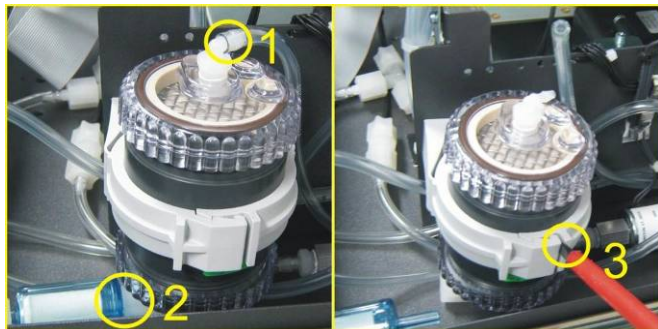

Figure 58 – Zero Scrubber Removal
3. Remove the tubing from the barb fitting on top of the scrubber (refer to Label 1 in Figure 58).
4. Remove the DFU from the fitting below the scrubber by pulling it out (refer to Label 2 in Figure 58).
5. Now the scrubber holder can be opened with a screwdriver (refer to Label 3 in Figure 58).